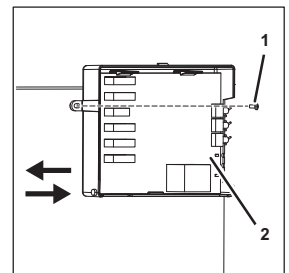

Fig. 60
3. Remove the fastening bolt (Fig. 60/1) from the control system (Fig. 60/2).
4. Slide the control system (Fig. 60/2) to the left or right and lift the control system (Fig. 60/2) out of the unit.
5. Position the new control system (Fig. 60/2) within the unit.
6. Slide the control system (Fig. 60/2) to the left or right and push the control system (Fig. 60/2) down until the control system (Fig. 60/2) locks into place.
7. Attach the control system (Fig. 60/2) on the unit using the fastening bolt (Fig. 60/1).